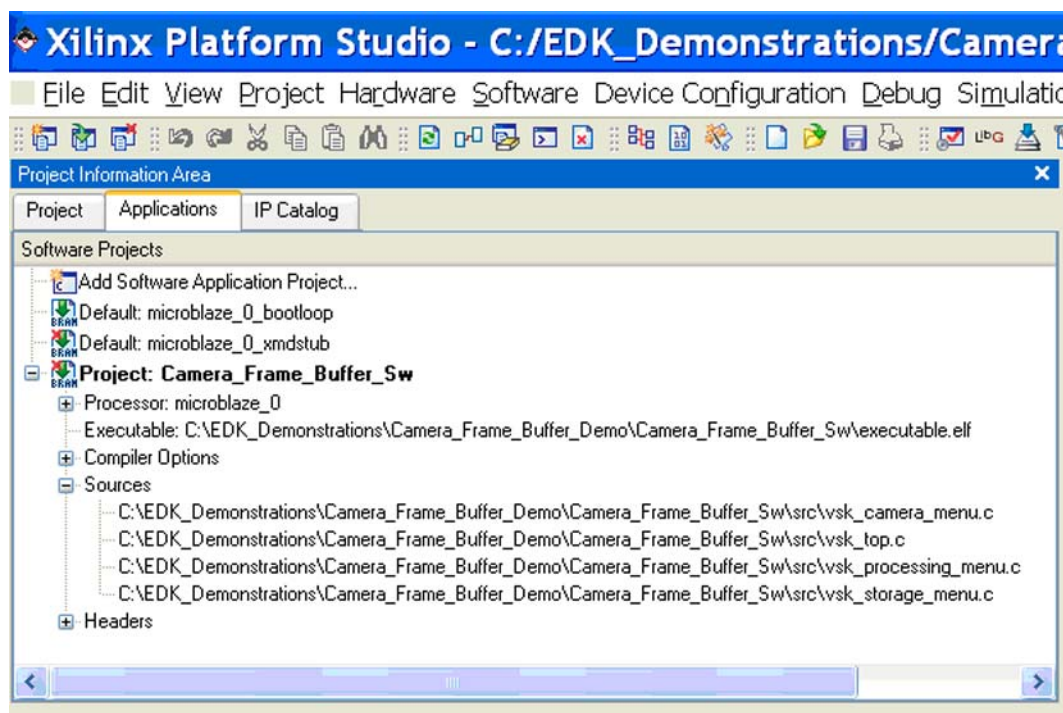

Figure 5-2: Applications Pane with Project and Sources Expanded
4. Under the Project tree, expand the Sources tree by clicking the “+” sign next to it. A list of the source files in the project is displayed, as shown in Figure 5-2.